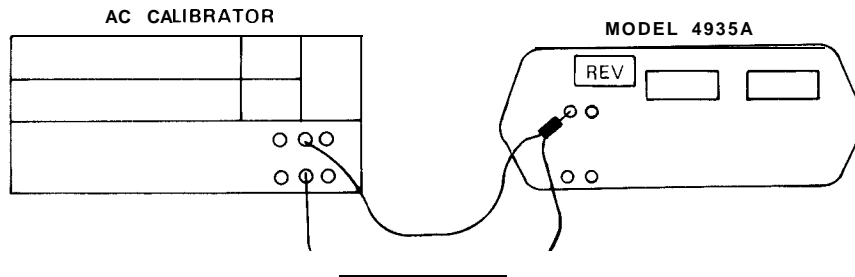

Figure 4-4. Autorange Test
1. Connect the AC Calibrator to the 4935A RCV jack as shown in Figure 4-4.
1. Connect equipment as shown in Figure 4-4. On 4935A select: